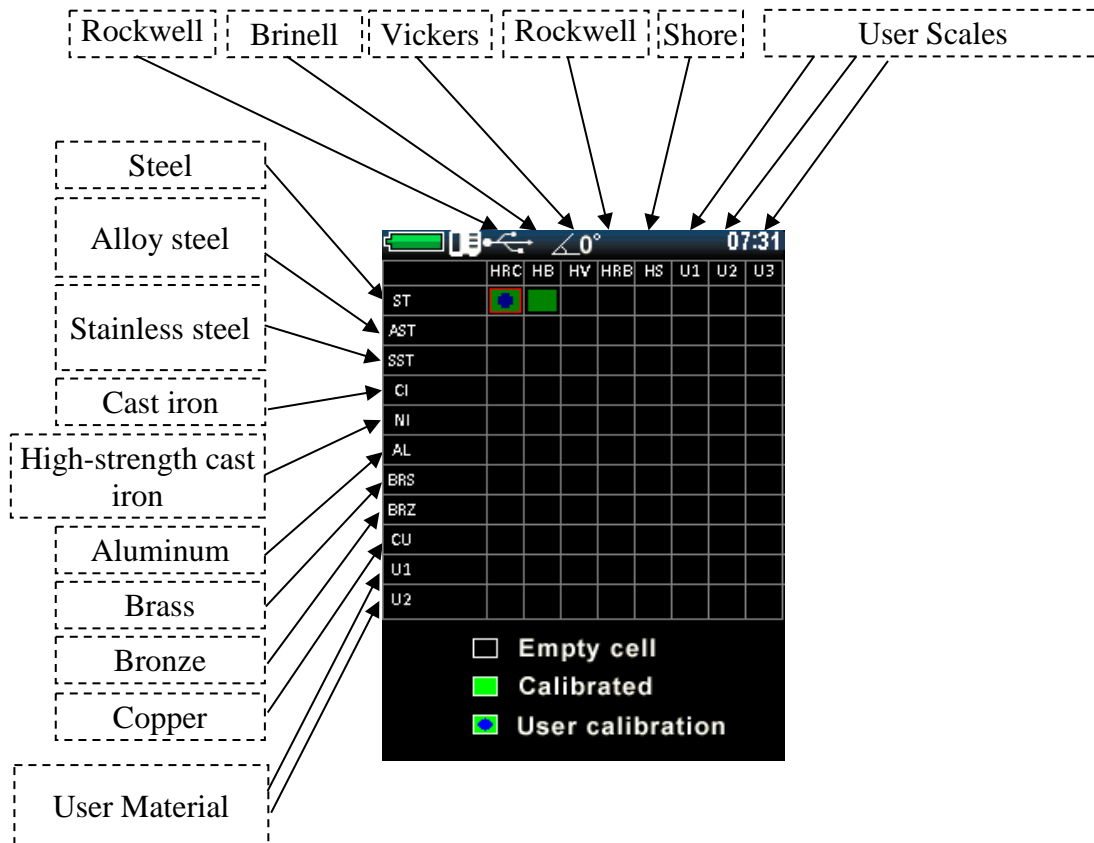

Figure 2.27 - Calibration Mode
1. Select <CALIBRATION> from the main menu. Each table cell corresponds to a specific calibration scale for a particular material (Figure 2.27). All calibrations can be calibrated for any materials and any scales, and are thus separated to systematize calibration sets.